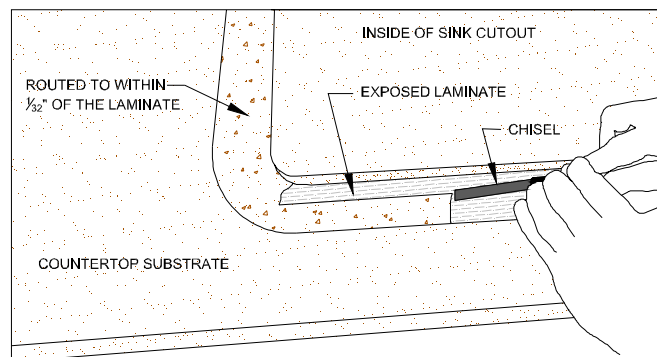

Figure 6A
- Keep chisel flat, beveled side up, so as not to damage laminate. (FIG. 6A)